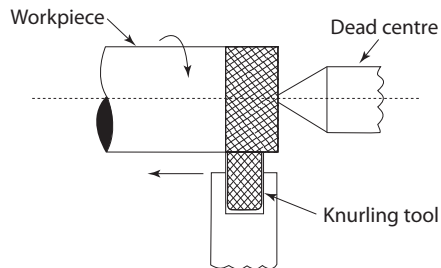

Fig. 1.35 Knurling
2. Knurling In knurling, the surface of the work piece is made rough for easy gripping as shown in Fig. 1.35.